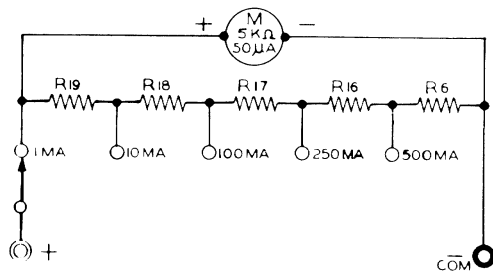

Figure 5-2. Simplified Circuit-DC mA
5.3.1 The basic circuit configuration utilized for direct current measurements is shown in simplified form in Figure 5-2. Resistors R19, R18, R17, R16, and R6 in the arrangement shown form an Ayrton, or "Universal" shunt. The values of these resistances can be computed as: